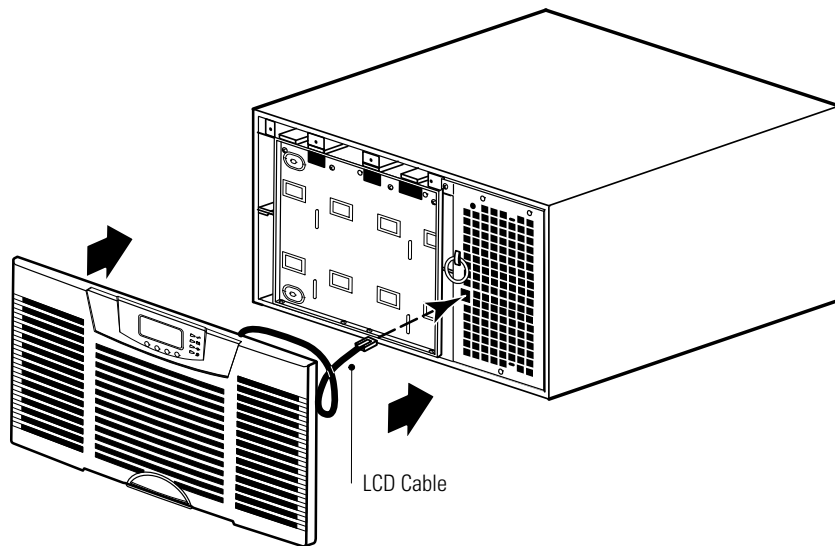

Figure 18. Installing the UPS Front Cover
6. Install the UPS front cover (see Figure 18):